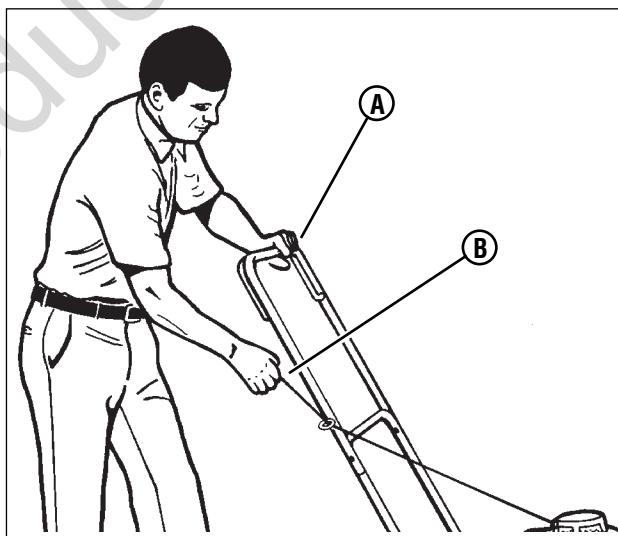

Figure 14: Starting the engine
6. Stand behind the mower. Use one hand to hold the engine stop lever in the operating position (**A**, **Figure 14**). Use the other hand to hold the recoil-start grip (**B**).